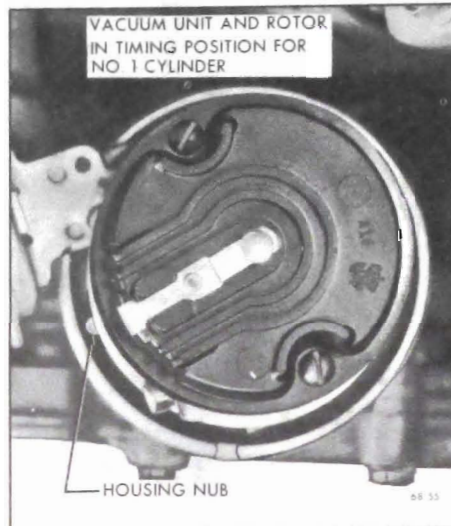

Figure 68-39 - Installing Distributor in Engine - V-8 Engines
2. Make a mark on distributor base in line with center of rotor. Then carefully note the direction the vacuum unit points in relation to the engine so that the distributor can be replaced in the exact same position after it is serviced. See Figure 68-39.